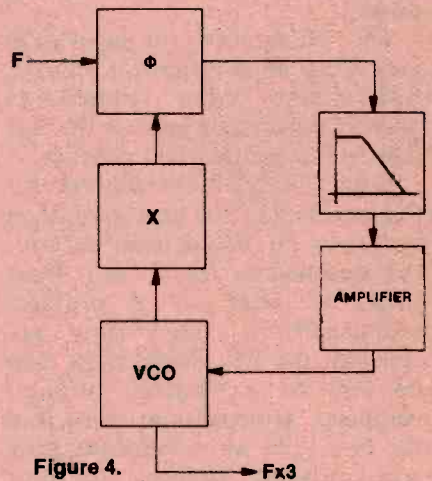

Figure 4.
8. What is the name of the block marked 'x' in the phase-locked loop in Figure 4?